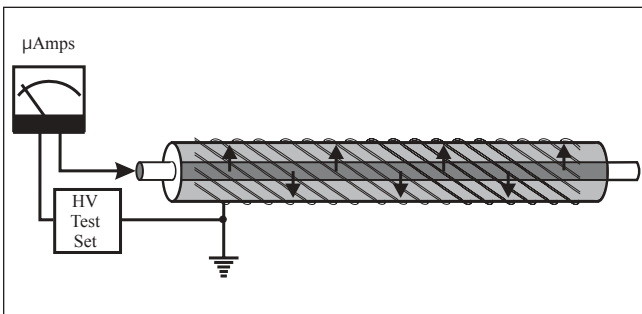
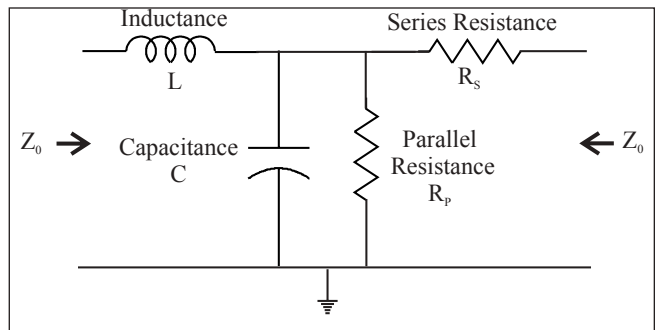

Figure 1: Good insulation
Figure 2: Equivalent circuit of good cable
Cable insulation may be considered good when leakage current is negligible but since there is no perfect insulator even good insulation allows some small amount of leakage current measured in microamperes. See Figure 1.
The electrical equivalent circuit of a good run of cable is shown in Figure 2. If the insulation were perfect, the parallel resistance R_p would not exist and the insulation would appear as strictly capacitance. Since no insulation is perfect, the parallel or insulation resistance exists. This is the resistance measured during a test using a Megger® Insulation Tester. Current flowing through this resistance is measured when performing a dc hipot test as shown in Figure 1. The combined inductance (L), series resistance (R_s), capacitance (C) and parallel resistance (R_p) as shown in Figure 2 is defined as the characteristic impedance (Z_0) of the cable.